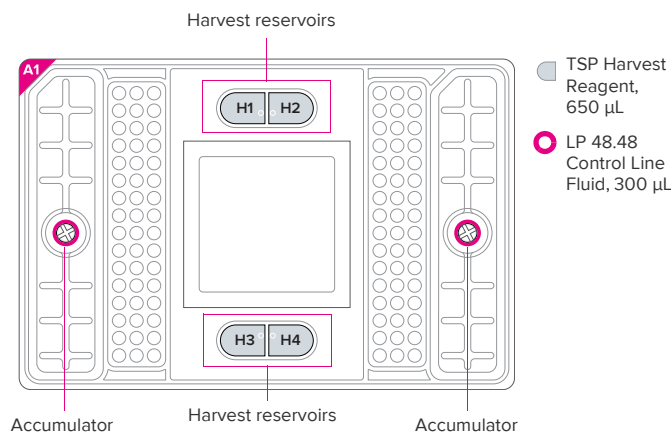

Figure 4. Priming map for the LP 48.48 IFC
- Inject the entire contents of one 300 μL LP 48.48 Control Line Fluid syringe into each accumulator on the IFC (see Figure 4), **avoiding spills**.
- Place the IFC on a flat surface and pipet 650 μL of TSP Harvest Reagent into each of the harvest reservoirs H1, H2, H3, and H4 (see Figure 4).